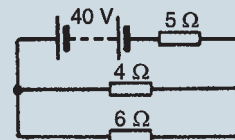

Figure 15.50
- Use Thévenin's theorem to find the current flowing in the 6Ω resistor shown in Fig. 15.50 and the power dissipated in the 4Ω resistor.